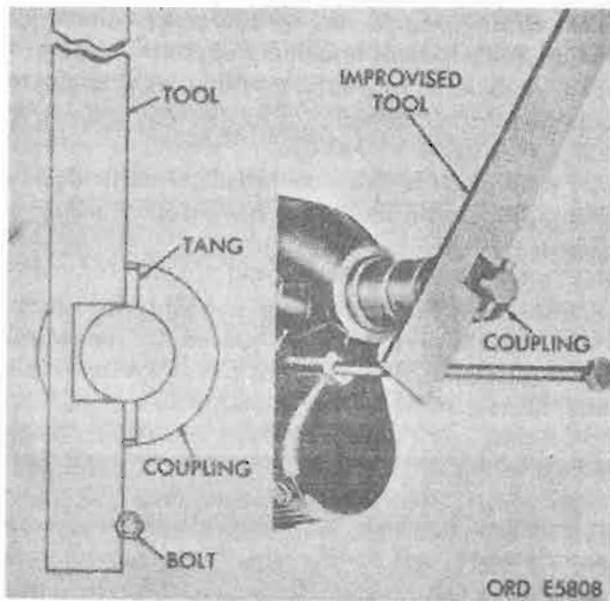

Figure 6-11. Aligning coupling on distributor shaft.
d. If either shaft or coupling is discarded and replaced, the new shaft or coupling must be aligned since the drive tongue is off center. It is important that these alignment procedures be followed any time a shaft or coupling is discarded. Refer to figure 6-11.
(6) Place improvised tool against bolt and tangs of coupling as shown in figure 6-11, with smaller portion of coupling in opening of the tool.
(7) Install roll pin (fig. 6-11).